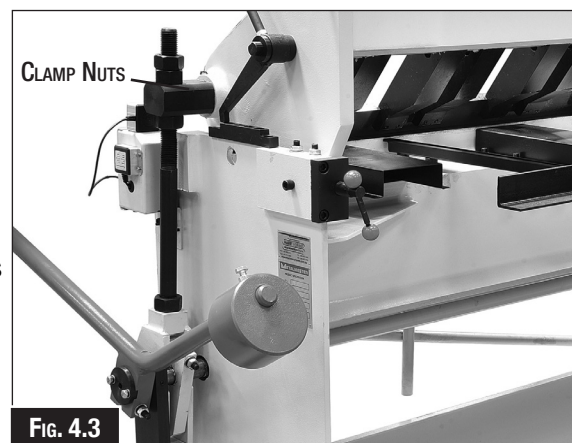

Fig. 4.3
1. Position two pieces of metal the same thickness as the work-piece on each end. When the fingers are slightly touching the workpiece, the clamping handles on the end of the machine should be at 2 o'clock position when viewed from that end. (Fig. 4.3)